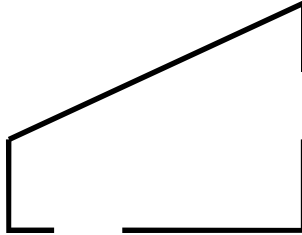

Figure 9.2 Plan of a Shear Core
Figure 9.2 shows a plan view of a shear wall core.
- (1) Using the **Structure Sections** task and the **Groups** tab, arrange the structure sections in groups. You can put all of the sections in one group if you wish, but it may be more useful to use a number of groups. For example, for the shear core in Figure 9.2 you may have specified structure sections at several stories (possibly all stories), with sections for each side of the wall and for the entire wall at each story. In this case you would probably set up five Structure Section Groups, one for each side of the wall and one for the entire wall. When you set up structure section groups, also consider whether you want to plot bending moment and shear force diagrams, as described in a later section.
- (2) Using the **Limit States** task (see Chapter 10), define one or more limit states of **Struct Sectn** type. The concept is similar to that for element strength limit states that are based on element groups.